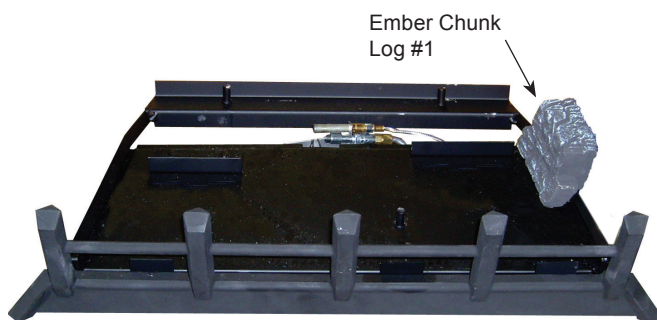

Figure 34.
1. Place the #1 log (the "chunk") on the grate bar right side of the burner adjacent to the controls. Figure 34.